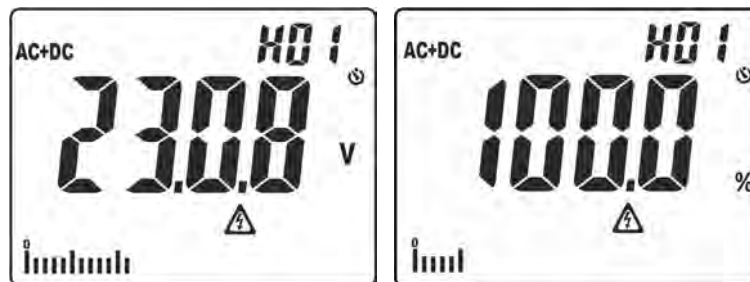

Fig. 3: Display of amplitude of harmonic analysis
- Simple pressing of the key to display the amplitude of voltage and current harmonics up to the 25th (**Hdc**, **H01... H25**) in absolute or percentage format in relationship with the fundamentals of input signals (for voltage values $V_{AC} > 0.5V$ and current values $AC > 0.5A$ and frequency in the range $42.5Hz \div 69Hz$) and the percentage value of parameter **THD%** (see § 9.3) as shown in Fig. 3. Use keys **▲/ZERO** and **▼/☒** to increase/decrease the order of the harmonic.